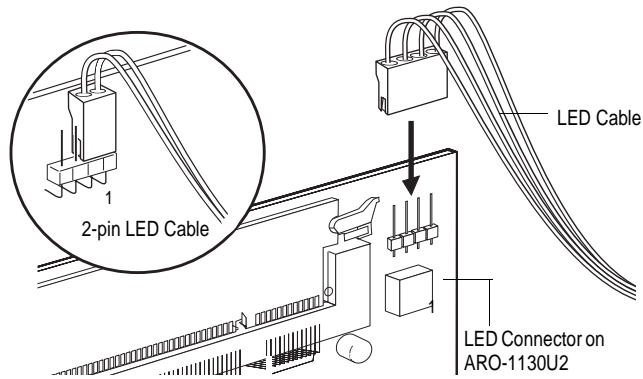

Figure 2-4. Connecting the LED Activity Indicator Cable
*(Optional feature)* An LED on the front panel of most computers lights to indicate non-SCSI hard disk activity. If you would like that LED to light whenever there is activity on SCSI Channel A (controlled by ARO-1130U2), disconnect the LED cable from the motherboard and connect it to the LED connector on the ARO-1130U2. If the LED has a two-position cable, connect the cable to pins 1 and 2 of the LED connector, as shown in Figure 2-4.